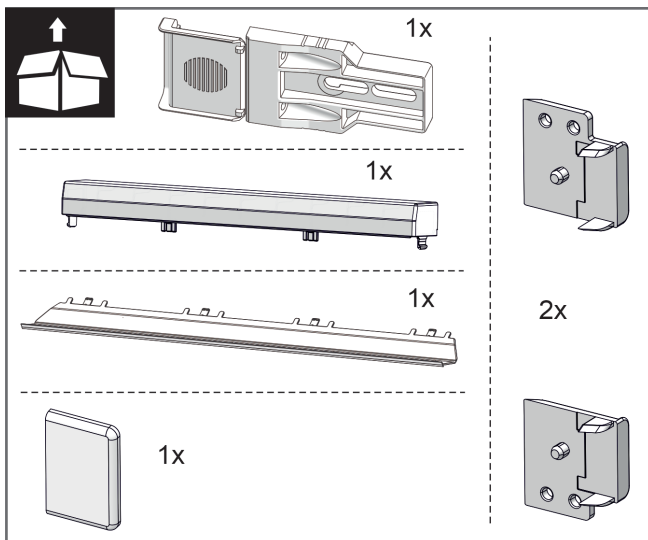
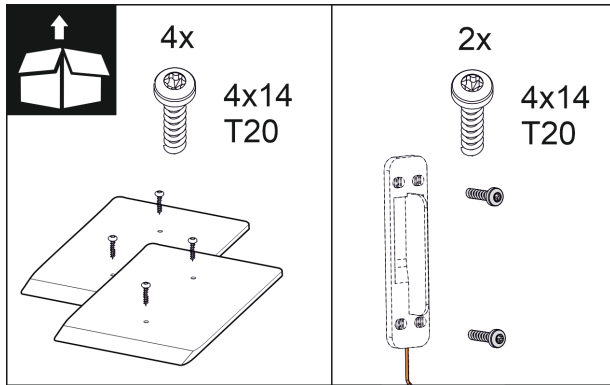

Fig. 10
Fig. 16
2. Check the assembly parts in the accessory kit. *Fig. 10 ()* to *Fig. 16 ()*
Assembly parts in the accessory kit Fig. 10 () to Fig. 16 ()